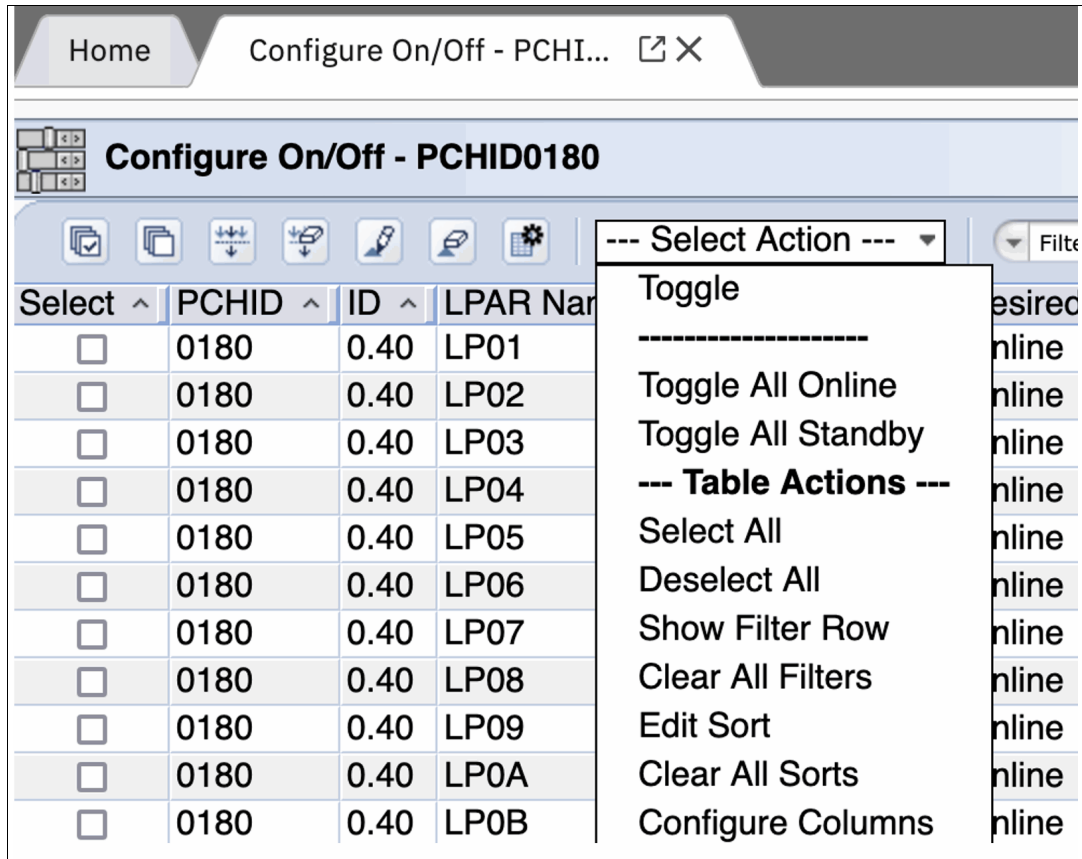

Figure 24 Select Toggle from the drop down menu
4. Select **Toggle** from the drop down menu. Only Toggle the one CHPID for our specific LPAR we have selected. See Figure 24 on page 21.